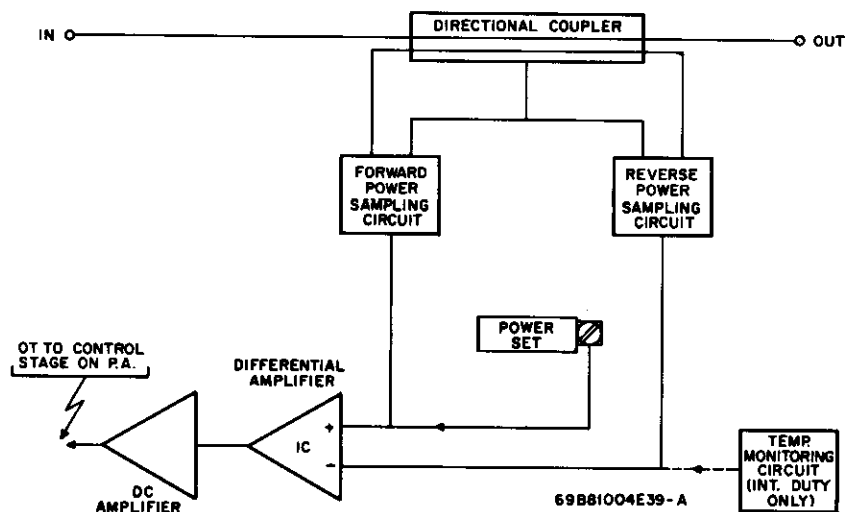

Figure 3. Power Control Board Block Diagram
2.2.2 Refer to the block diagram, Figure 3. The output of the integrated circuit differential amplifier, amplified by the dc amplifier, is the controlling input to the power amplifier board.